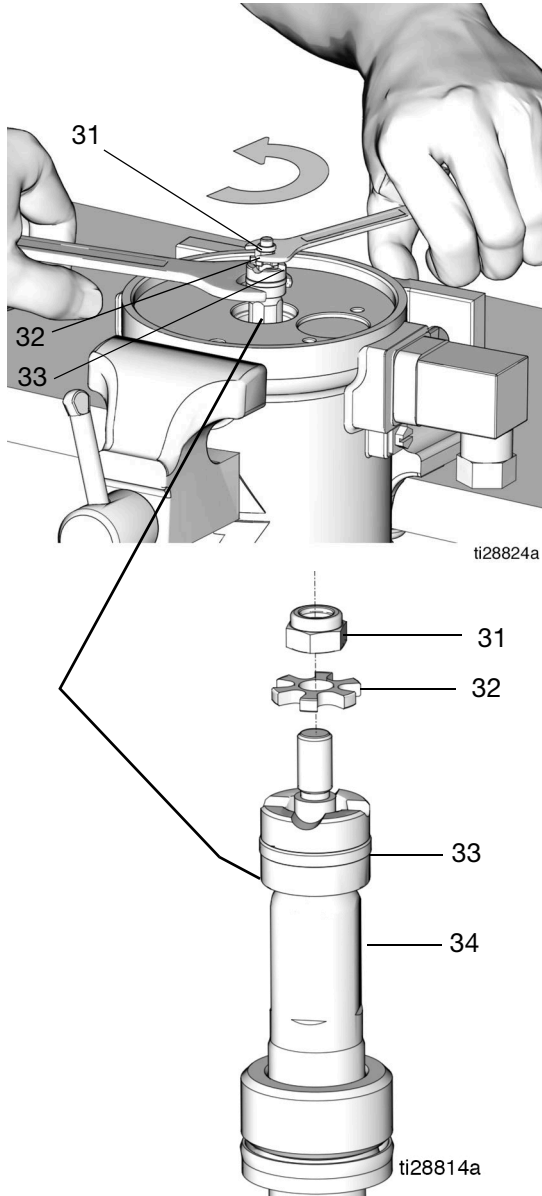

FIG. 18
15. Secure a wrench on the flats of the piston rod (34). Use a second wrench to remove the lock nut (31) and star washer (32) from the top of the piston (FIG. 18).
NOTE: There is a spring (5) inside the air motor cylinder (3) under the piston (2). Push on the top of the cover (1) for resistance and to hold it open while loosening the cover screws (1a) (see FIG. 18).